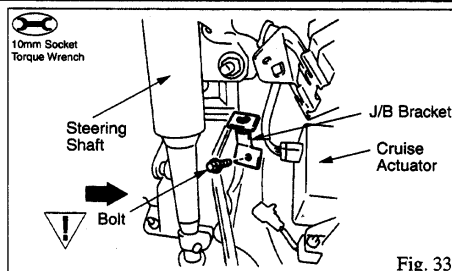

Fig. 33
- (9) Install the J/B bracket in the J/B No. 3 mounting bolt hole. (1 Bolt) (Fig. 33)